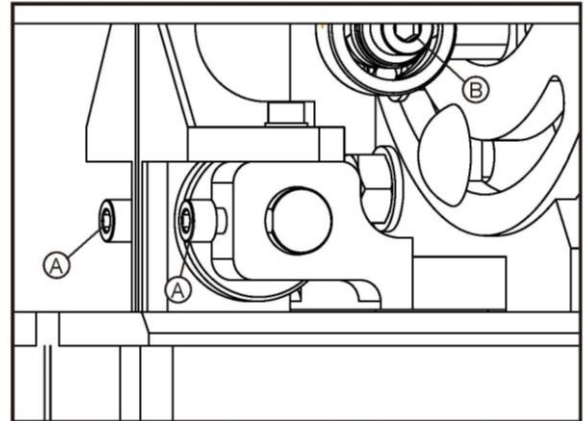

Fig.4.5.2
- To face plate should lightly touch the blade, to prevent vibration during operation and ensure correct direction of cutting. The positioning of these face plate is controlled by screw "A"(Fig.4.5.2), once they have been adjusted, tighten the screw "A"(Fig.4.5.2); they should be 2 mm behind the teeth of the blade. The thrust shaft prevents excessive backward movement of the blade whilst in operation, and should be 1-2 mm from the back of the blade: this can be adjusted by screw "B"(Fig.4.5.2).